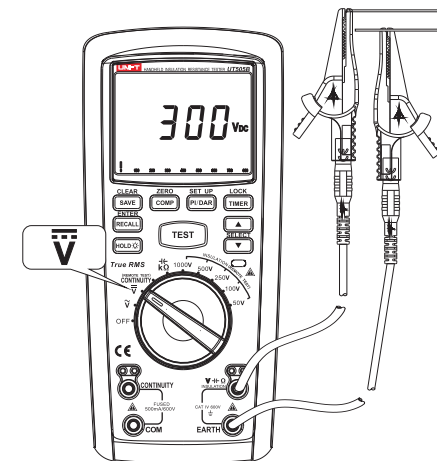

Figure 5
2. Measuring of DC Voltage (See Figure 5)
- ① Insert the red probe into "V" jack (red jack), and black one into "EARTH" jack (black jack).
- ② Rotate dial switch to the tap position of "V-" and connect the probe to both ends of the power supply or load to be tested in parallel.
- ③ Read current measuring values of DC voltage from the display.
- ④ In measuring, if intending to save measured voltage, press the key of "SAVE/CLEAR" for saving.